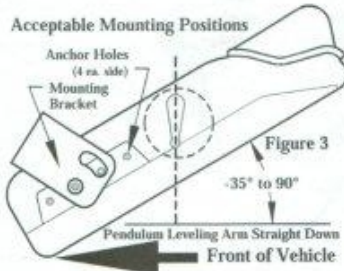

Figure 3
The controller must be mounted with the back of the controller toward the front of the vehicle. Mounting angles must be within -35 to 90 degrees (Fig. 3). Use the reversible slotted mounting bracket. Do not mount upside down or sideways. If the controller is mounted incorrectly, the pendulum within the controller cannot operate correctly while braking and may cause loss of trailer braking.
- Push the pendulum-leveling arm away from the indicator light until the light just reaches minimum brilliance. The leveling arm (Fig. 3) should be approximately straight down. Repeat steps D and E several times to make sure the indicator light has just reached minimum brilliance.
- Readjustment of the pendulum-leveling arm: If the conditions described occur, refer to Figures 3, 5 and 6 for the affects of pendulum leveling arm adjustment.
- Pendulum leveling arm adjusted correctly (Fig. 3):
- With the controller properly adjusted, the red indicator light may flash with the 4-way flasher light but will not operate the trailer brakes. (Fig. 3)